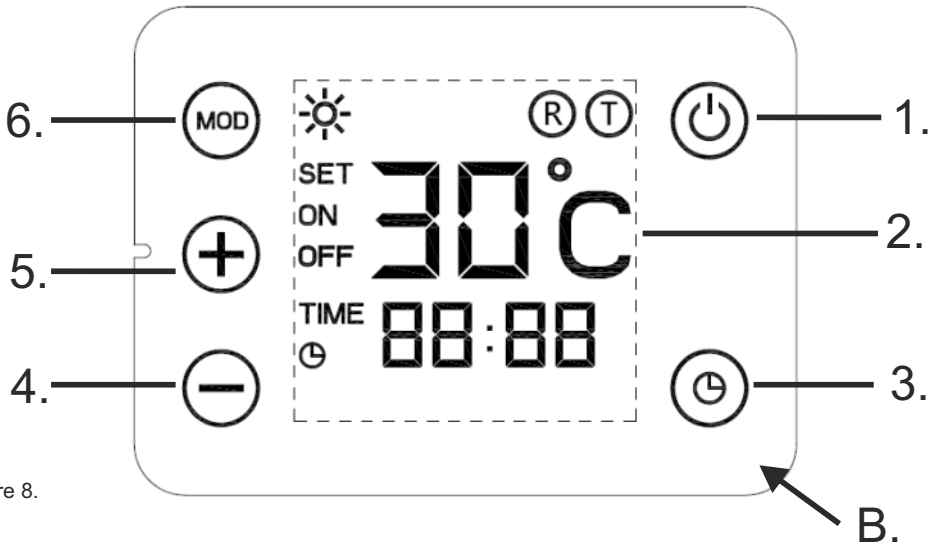

Figure 8.
Control panel (B) description – look at Figure 8
LED display (2) description – look at Figure 8